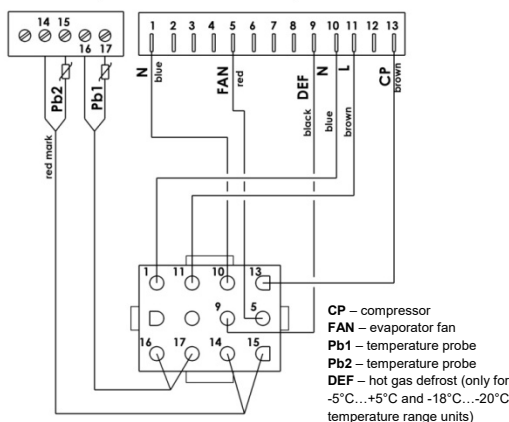

Fig. 7. The wiring diagram
9. Connect control wires to counter's controller as showed on wiring diagram (fig. 7);